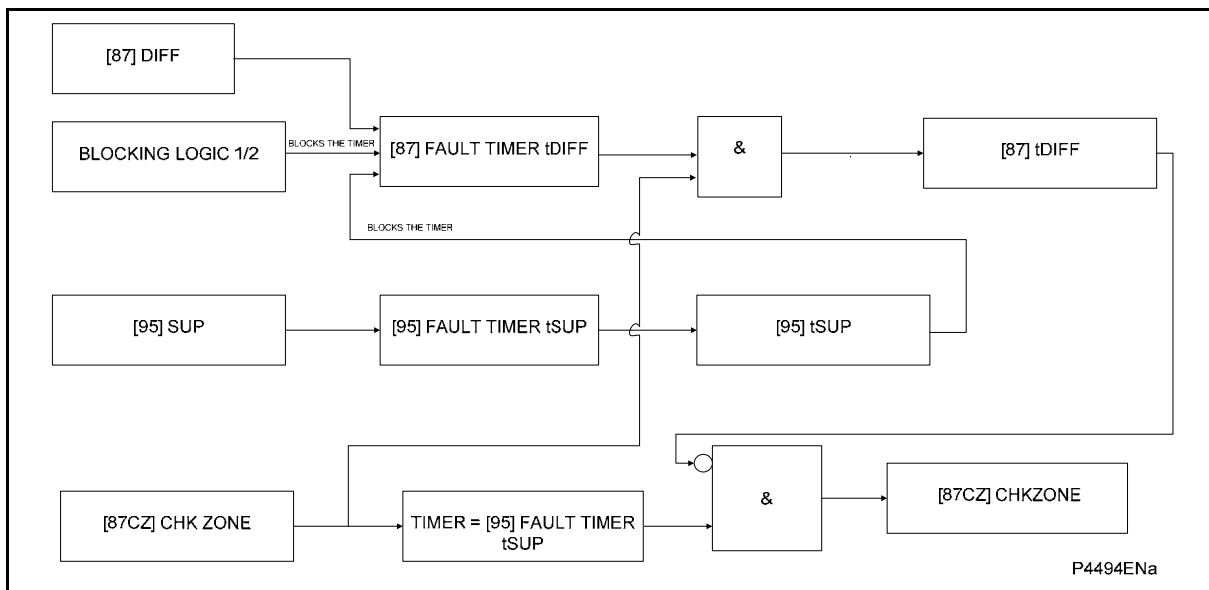

FIGURE 18: THREE PHASE APPLICATIONS – P72X GENERAL DIAGRAM
FIGURE 18 shows the general diagram when the P72x is used in three phase applications:
- Duplicate differential elements (discriminating and check zones) fed from separate CTs. Tripping is only permitted when both differential elements operate. The advantage of this scheme is that the differential settings can remain very sensitive (below full load current values) but this requires a total duplication of the scheme. The P72x used to protect the discriminating zone should have an input set as [87CZ] Chk Zone. The P72x used as the Check Zone should have an output contact configured as [87N] Diff or [87] Diff. This output contact should be wired to the input [87CZ] Chk Zone in the P72x used to protect the discriminating zone. Only output contacts configured as [87N] tDiff or [87] tDiff should be configured for tripping purposes because the [87N] tDiff and [87] tDiff take into consideration the Check Zone. [87N] Diff and [87] Diff do not consider the Check Zone, as shown in FIGURE 18.